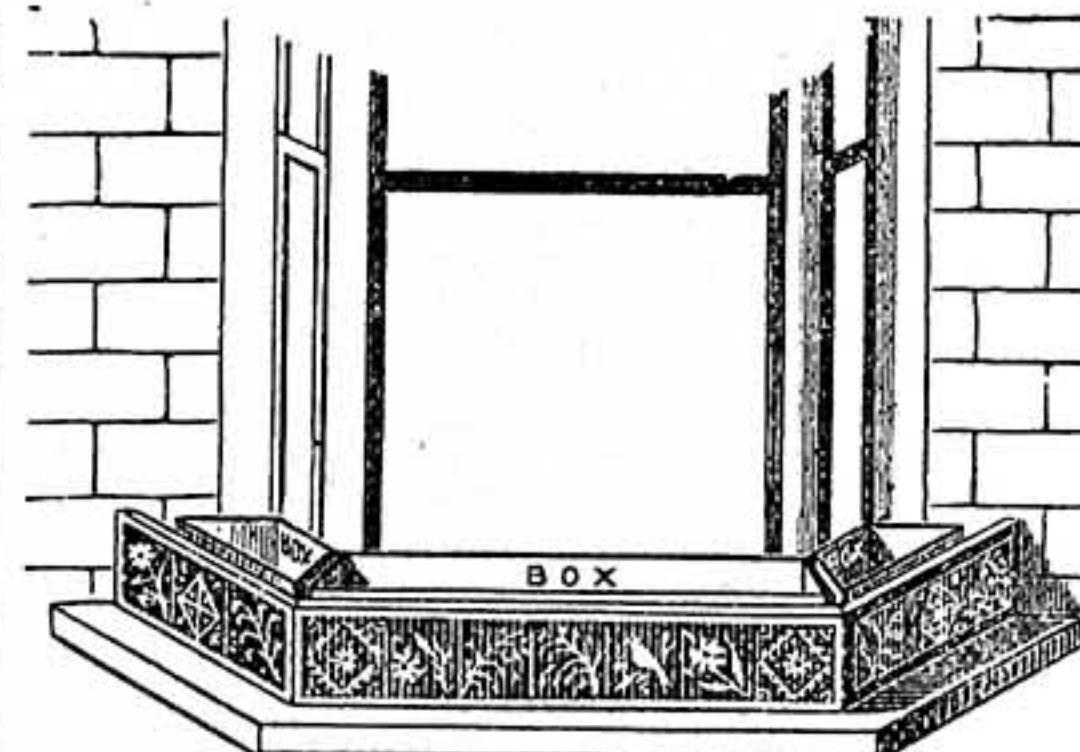
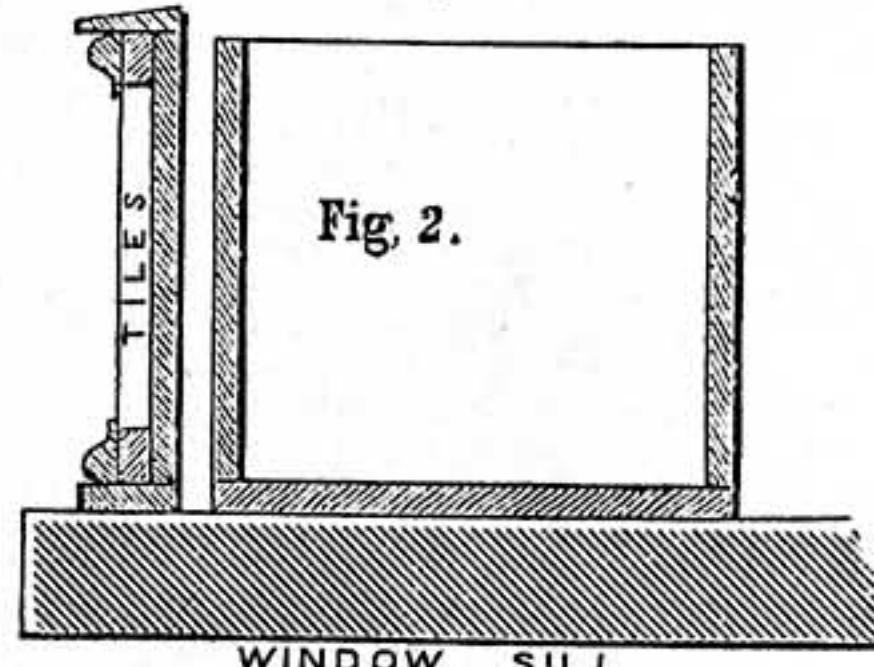
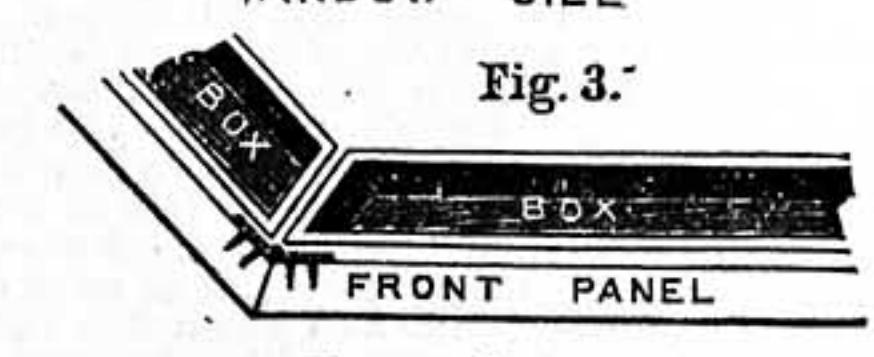

Fig. 1.
Fig. 2.
Fig. 3.
**Billiard-Cue Tips.**—T. R. (Belford).—The tips of billiard cues are pressed in by a screw working in a socket which holds on to the cue the tighter the screw is applied. I send a rough sketch, useful to cue-makers; but most of these workmen have their own devices to ensure a close-down fit of rubber to the wood. The diagram is a sectional elevation sketch. A cross-handled key or screw-pin with a coned shoulder (c) fits into an expanding double-jawed gripper (J, J), which is formed of two blades of iron or brass slightly segmental, to fit the screw-pin and end of cue. These blades are jointed to a solid ring by lugs hinged to projections from the ring. The middle hole in the ring is threaded to take a screw on the pin (T). The extremities of the blades (S, S) furthest from the cores grip the cue by the action of the cone shoulder forcing open the opposite ends of the blades, acting as a vice on the cue, holding tighter the more the rubber is pressed down by screwing the pin on to it at I.—J. C. K.
**Flower-Box for Bay Window.**—R. G. (Streatham Hill).—A very handsome-looking flower-box may be made for your bay window in the manner I am about to describe, and which I hope you will understand by the rough sketches given. Instead of making your flower-box in one piece as you suggest, and putting the tiles in the front of it, you will do much better to have the tiles in a separate front; it can then be lifted away from the sill when required, or the boxes can be removed for gardening operations if necessary. In Fig. 1 you have a sketch of the arrangement when in position. The front board containing the tiles should be about 2 in. back from the edge of the window-sill, and three boxes made to fit the spaces between it and the front and side windows. Fig. 2 shows a section through the front and the box. To get at the exact
by a pair of backfold engines at each joint; these hinges admit of the ends being folded flat to the front when the panelling is removed from its position, as, if rigid, it would be awkward to handle. To steady it when in its place, a hook and eye at each end may be used, the hook being on the inner side, and the eye either in the wall or on the wood-work of the window, whichever answers best. A piece of ½ in. wood runs along the bottom of the panelling, and a similar piece on the top, which is bevelled towards the front to throw off the water. Yellow deal should be used both for the front and for the boxes; the moulding you can buy ready for use at almost any timber yard. I think a few minutes' study of Fig. 2 will make the foregoing instructions clear to you, and Fig. 3 will show how the ends are meant to be hinged. The boxes should be made of ¾ in. wood, and may be lined with zinc if preferred; they will, however, last a good many years without lining, and a pipe should be run from near the bottom of each out over the window-sill to carry off the drainage. Another plan is to dispense with boxes altogether. Make your front panels as described, and when in position put your flowers in pots behind them; this is a very good arrangement, as it lessens the labour involved in carpentering, and also admits of changing the plants whenever required, thus enabling you always to have a good show of flowers at your window. A number of minor details and modifications may suggest themselves to you as you proceed with the work, and if you find any difficulty write again. That drawing attached to your letter was of the utmost service in giving me an idea of exactly what you wanted, and I wish all querists would adopt a similar method (where possible) when writing to WORK for information; it would so simplify the task of answering, and tend to their getting the requisite replies. I may just add that if you still think of making three boxes, and not using a front as described, the details given for the panelling of the front will equally apply to the panelling of the boxes.—G. LE B.